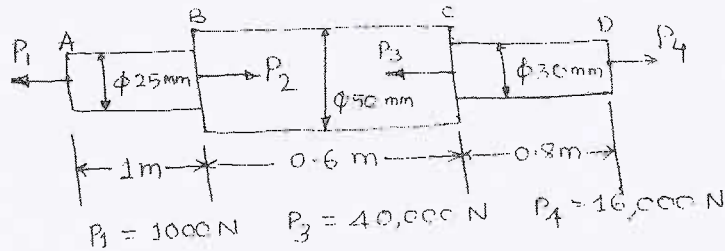

Fig. Q1 (c)
- c. A member is subjected to point loads as shown in Fig. Q1 (c). Calculate P_2 necessary for equilibrium. Take $E = 2.05 \times 10^5 \text{ N/mm}^2$. (10 Marks)